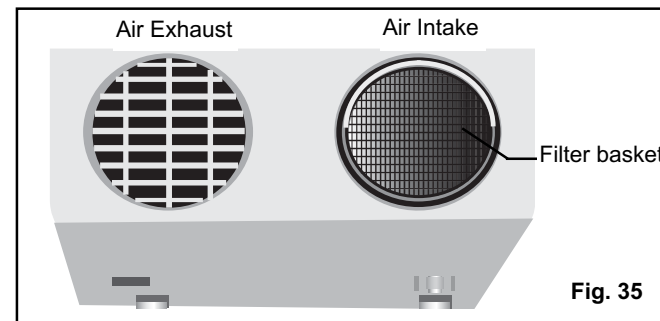
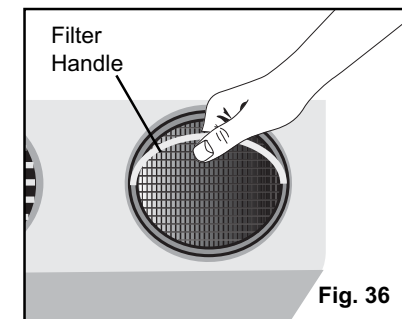

Fig. 35
Fig. 36
- 1b) To remove the air *intake* filter (Fig. 35): Simply tilt the filter handle upwards and pull out the filter basket. (Fig. 36).